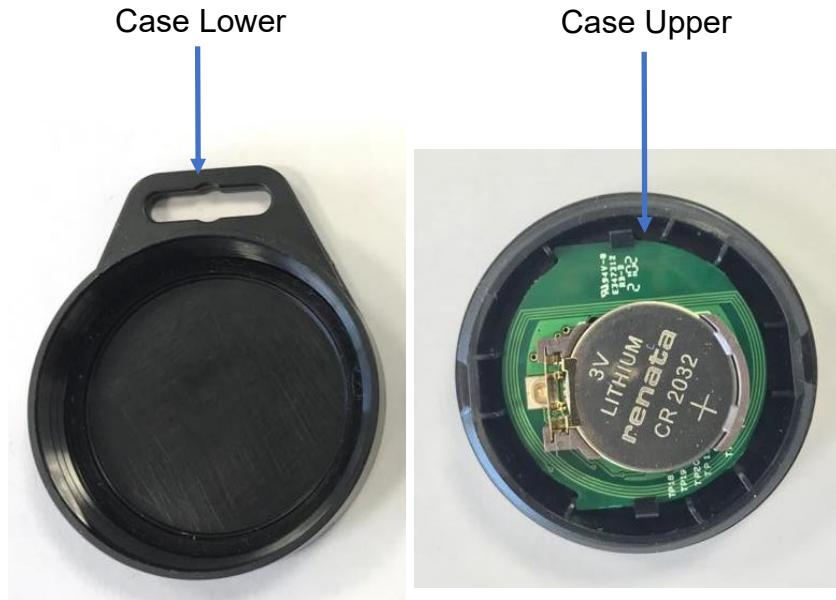

Fig 1 - Sense Shield with Lanyard Clip shown for illustration purposes
1. Unscrew the case upper and remove from the case lower (Fig 1).